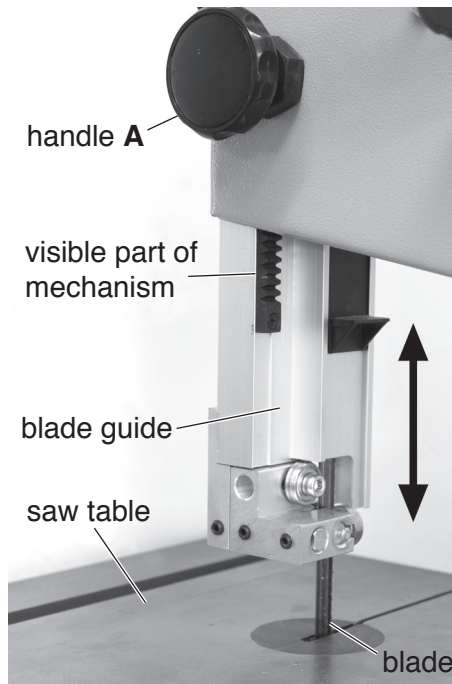

Fig. 13
- (d) Fig. 13 shows the blade guide for a small bandsaw used for cutting timber. By turning handle **A** the guide can be raised or lowered to allow different thicknesses of timber to be cut.